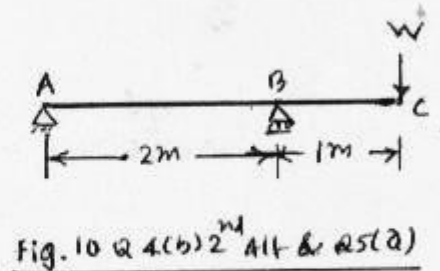

Fig.10 Q4 (b) 2nd Alt. & Q5 (a)
in fig. 10. If the tensile and compressive permissible stresses are 40MPa
- (a) For a beam shown in **fig.10**, is subjected to a point load W equal to 20kN,